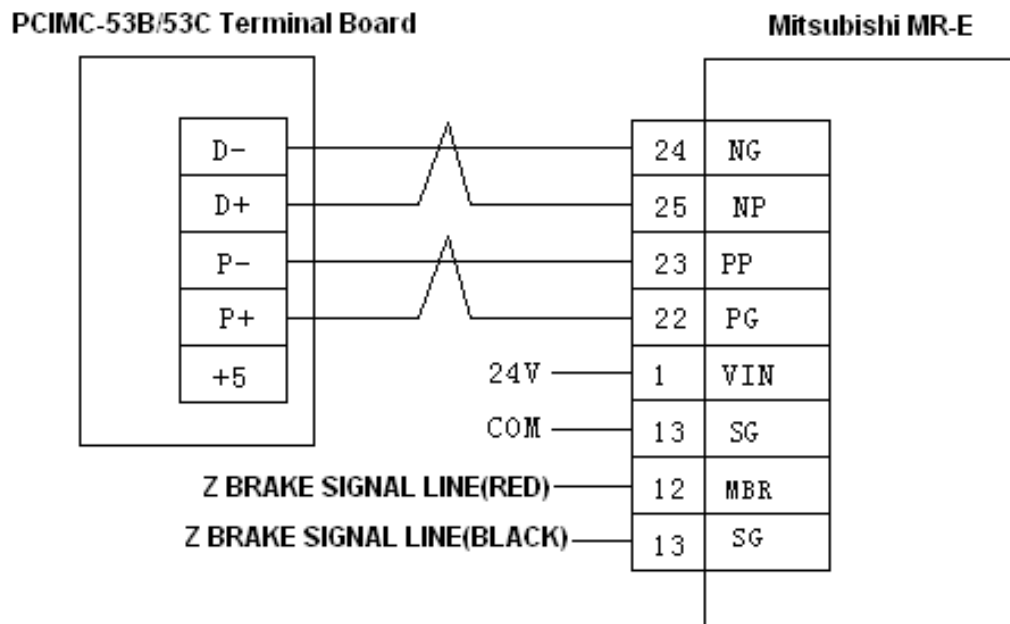

Fig. 4-15 Connection between Terminal Board EX1D and Mitsubishi MR-E Servo Driver
- 1) Wiring diagram of connection between terminal board EX1D and Mitsubishi MR-E servo driver is shown below in Fig. 4-15: